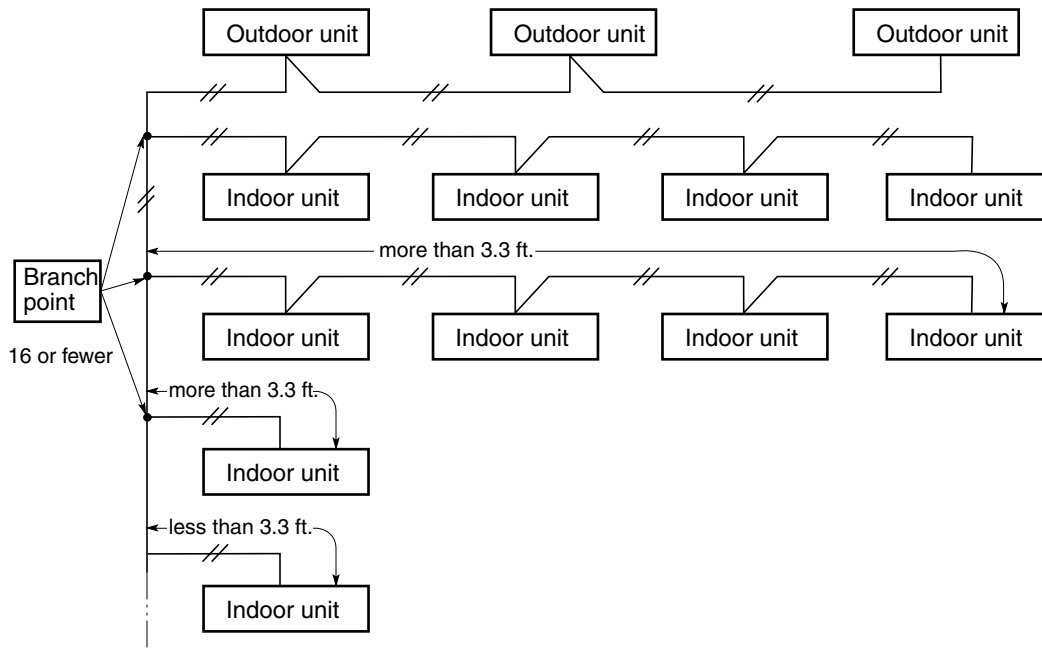

Fig. 5-3
(4) If branching the inter-unit control wiring, the number of branch points should be 16 or fewer. (Branches less than 3.3 ft. are not included in the total branch number.) (Fig. 5-3)